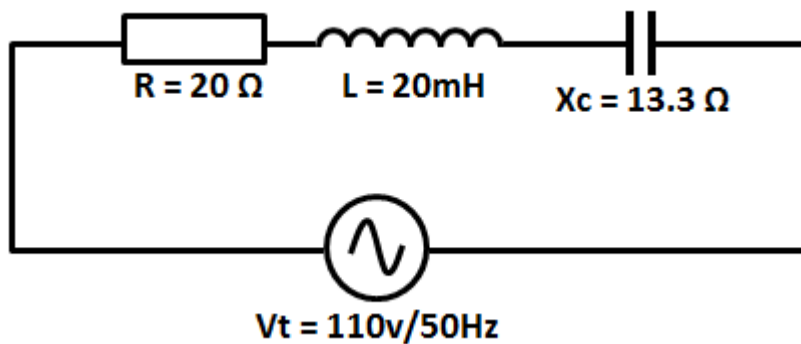

FIGURE 3
- 4.3 Study FIGURE 3 below and answer the questions.